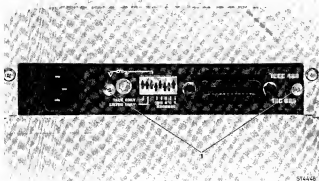

Fig. 5.6. IEC-bus
- Remove the two screws (Fig. 5.6. item 1).